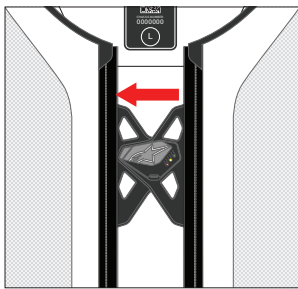

Figure 11: How to switch on the System;
1. Put on the System with the Converter (4) attached to the front.
2. Close the Front Flap (3) taking care to correctly attach the hook-and-loop by lining up the patches, as shown in Figure 11; the System automatically turns on as soon as the Front Flap (3) is attached to the hook-and-loop patch.
3. Once the Front Flap (3) has been correctly closed, check the LED Display (2) to verify that the System has turned on and that it has started correctly (see Section 13 "Display Indications"). In particular, the User must verify that after the System starts-up, there is no System Fault present.
2. System Installation. Remove the inner liner from the protective Outer Garment. If present, first connect the integrated LED Display using the External LED Display Connector (17). Then proceed placing the System inside the Outer Garment, making sure to position all the Velcro attachments correctly. Finally, connect the zippers of the System to the zippers present on the Outer Garment. Proceed by inserting the inner liner, passing it internally to the sleeves, and make sure the Front Flap (3) is exposed to allow the System to turn on once the Outer Garment is on.
- 3. Put on the Garment.** Put the Outer Garment (with the Integrated System) on and close the Front Flap (3) taking care to correctly attach the hook-and-loop patches, as shown in Figure 11; the System automatically turns on as soon as the Front Flap (3) is attached to the hook-and-loop patch.
- 4. System Verification.** Once the Front Flap (3) has been correctly closed, check the LED Display (2) to verify that the System has turned on and that has started correctly (see Section 13 "Display Indications"). In particular, the User must verify that after the System starts-up, no System Fault is present.